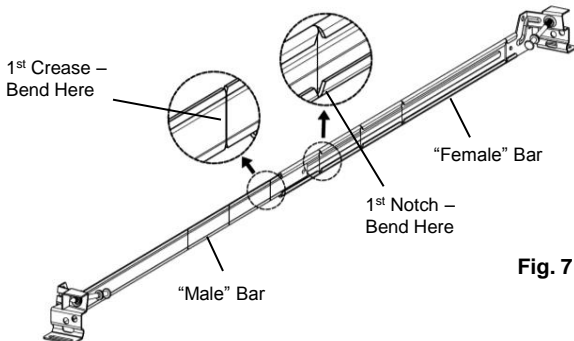

Fig. 7
1. Spread the bars as wide as possible. (Fig. 7)
2. For each hanger bar, bend the "male" bar, back and forth at the 1st crease from the center until it splits. Bend the "female" bar, back and forth, at the 1st notch from the center until it splits. (Fig. 7)